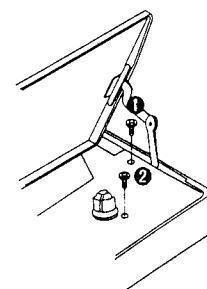

Fig. 9
3. Remove 2 screws (①, ②) in order to remove the motor. (See Fig. 9.)